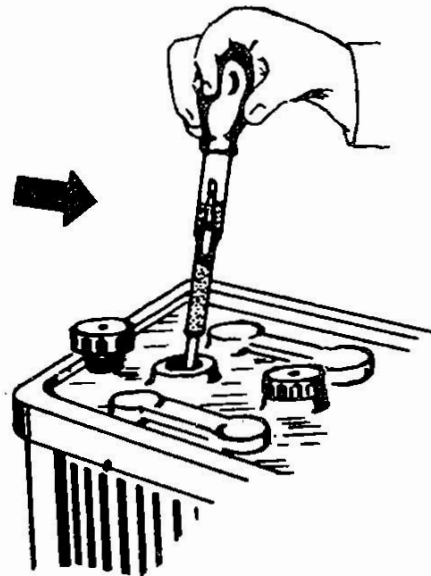

Fig.3.31
*Inspect acid density of batteries every month (Fig.3-31)